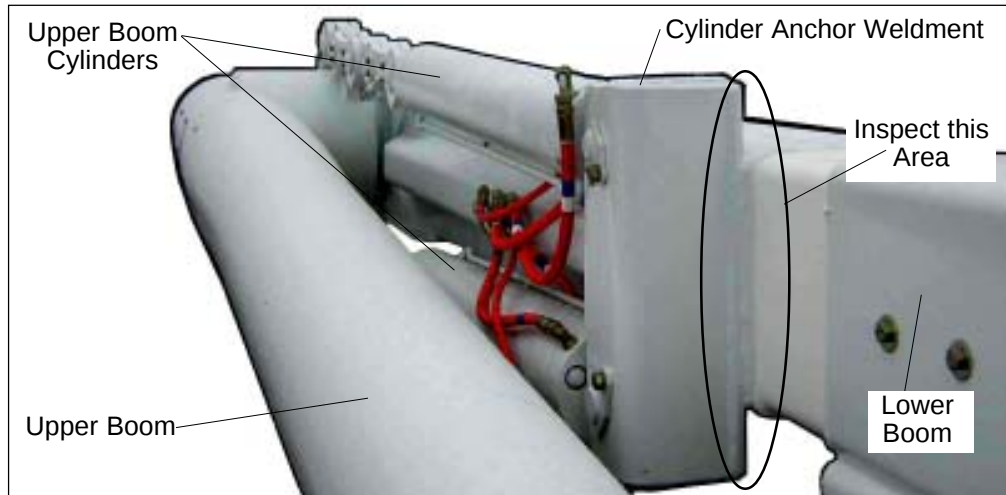

Figure 1 — Inspection Area
2. Look at the upper boom cylinder anchor weldment on the lower boom (refer to Figure 1).